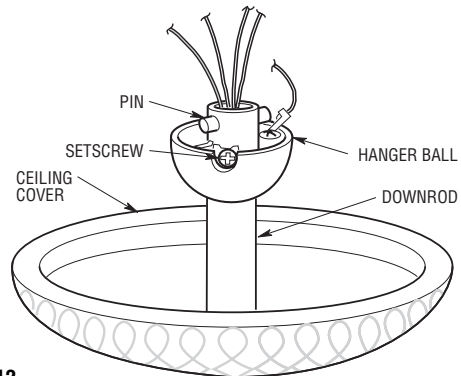

Figure 12
- 22. Reinstall the hanger ball on the downrod as follows. Route the motor leads through the hanger ball and slide the hanger ball over the downrod (Figure 12). Install the pin through the holes at the top of the downrod and slide the hanger ball up the downrod, aligning the ball so the pin is captured in the groove in the top of the hanger ball. Pull the hanger ball up tight against the pin and securely tighten the setscrew in the hanger ball. A loose setscrew could create fan wobble.